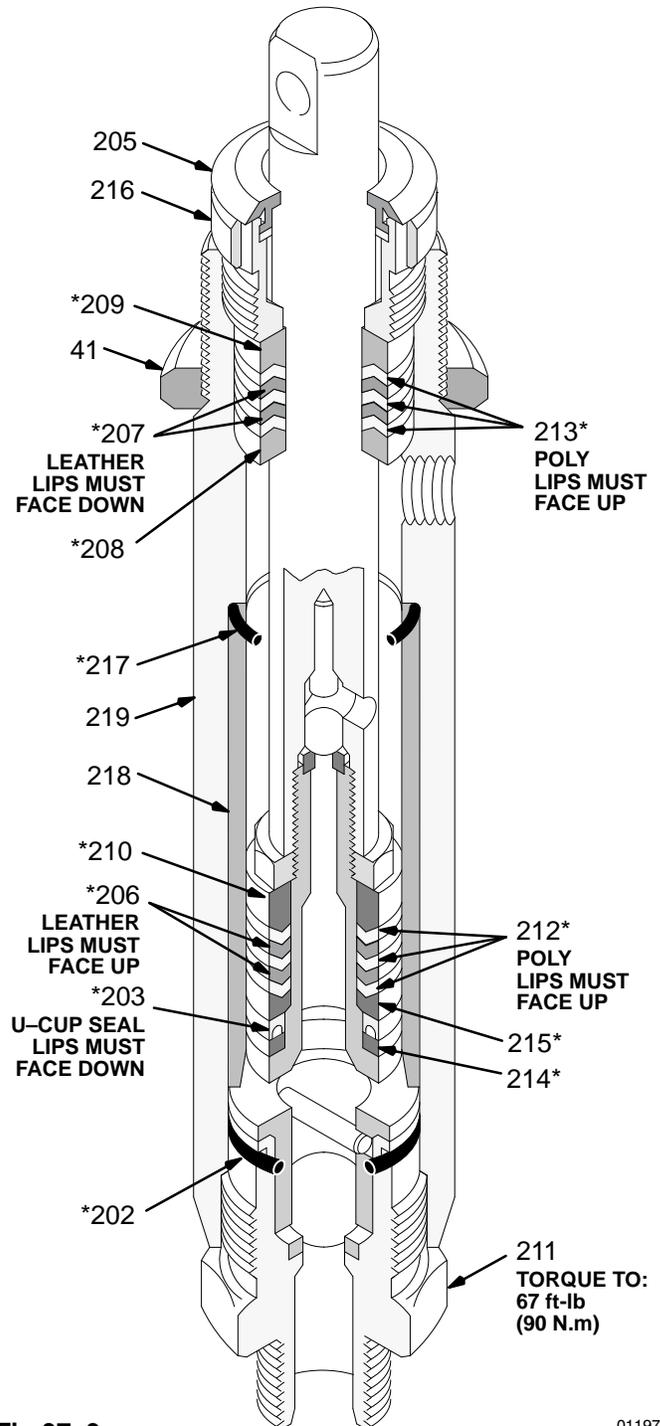
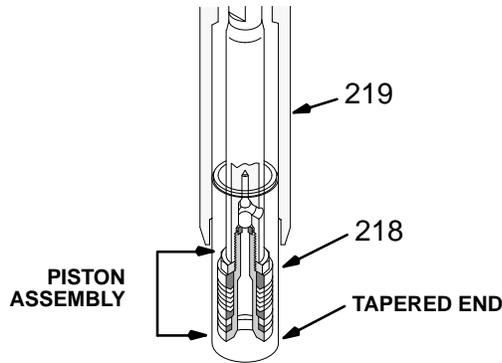

Fig 37-3
Fig 38-1
- Stack the male gland (208*), alternate packings (213*, 207*), and female gland (209*) into the top of the cylinder (219). See Fig 37-3.
- Install the packing nut (216) and plug (205), but leave loose for now. See Fig 37-3.
NOTE: The tapered end of the sleeve is the bottom of it. See Fig 38-1.
- Place a new o-ring (217*) firmly in the cylinder groove. See Fig 37-3.
12. Slide the sleeve/piston rod assembly **INTO THE BOTTOM OF THE CYLINDER**. This is to prevent packing damage during reassembly. See Fig 38-1.
13. Screw down the cylinder locknut (41) until it is finger tight at the bottom of the external cylinder threads.
14. Place the flats of the intake valve (223) in a vise. Install a new o-ring (202*). Screw the pump cylinder into the valve. Torque to 67 ft-lb (90 N.m). See Fig 37-3.